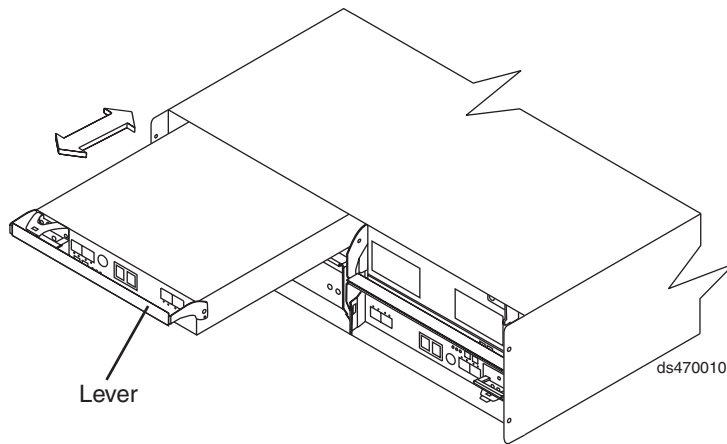

Figure 72. Removing a controller from the DS4200 Express
9. Slowly pull the lever away from the chassis to remove the controller from the bay. Use two hands when releasing the controller levers. Figure 72 shows the controller sliding from the storage subsystem chassis.